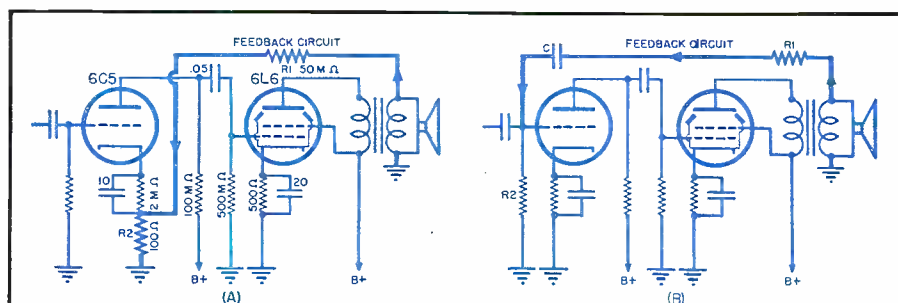

Fig. 4. The application of inverse feedback over two separate stages.
The use of inverse feedback circuits to provide adjustable tone control (as well as the other benefits normally obtained) has already been discussed (see circuit in Fig. 4 in Part 22 of this series which appeared in the April issue).
Feedback across two stages may be introduced either in the cathode circuit as shown at (A) of Fig. 4, or in the grid circuit as shown at (B). If the input device is likely to be changed frequently, the circuit of (B) is less desirable because different input circuits will change the feedback ratio. The circuit shown at (A) is recommended for such conditions. Since R_2 usually can be quite small, it will not introduce any difficulty due to its own degeneration. The feedback ratio is again $\beta = R_2 / (R_1 + R_2)$. The feedback volt-